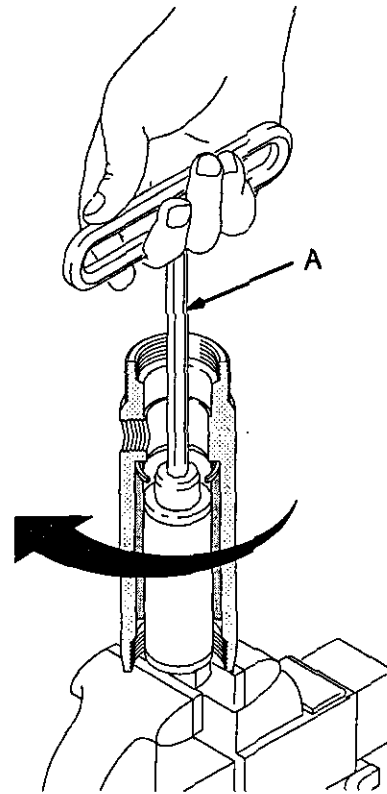

Fig. 27
7. Remove the sleeve. Position the sleeve removal tool within the cylinder with the large retaining nut at the bottom. Place the retaining nut in a vise. Tighten the vise. See Fig. 27.
8. Using a hex key wrench (A) or socket wrench with the provided hex bar, tighten the top nut by turning the wrench clockwise. This expands the cylinder. See Fig. 27.